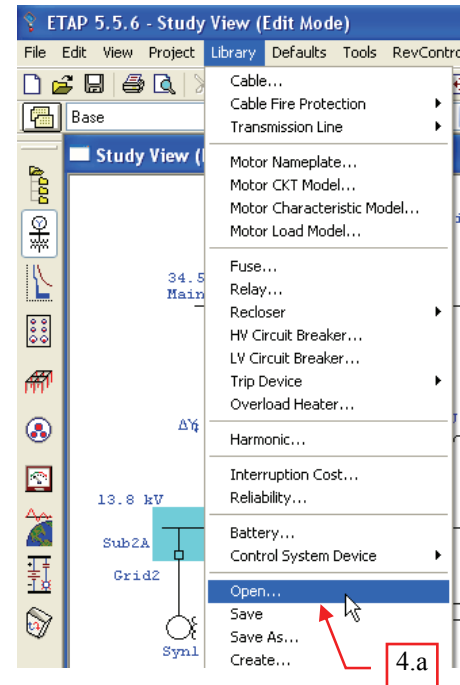

Fig. 2
- a. From the main menu, select “Library→Open...” (see Fig. 2).